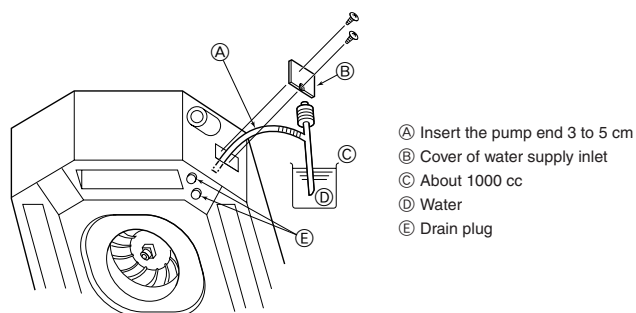

Fig. 6-2
6.1. Check of drainage (Fig. 6-2)